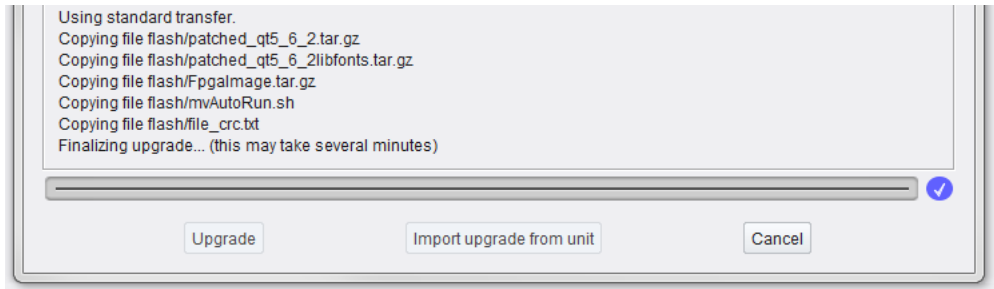

Fig. 11-13: Upgrade Log Messages - In Progress (“Finalizing upgrade” message: Wait)
- 10 While the software upgrade is finalizing (see Figure 11-13), if the MV-8 Series Multiviewer’s programmable logic (FPGA) requires upgrading as part of this upgrade package, then this FPGA upgrade is done. It approximately takes a *further* 16 minutes to complete an FPGA upgrade.